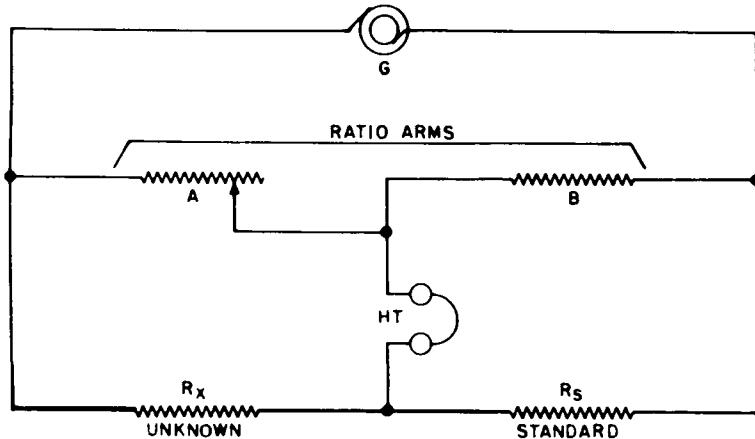

Figure 4-1. Basic Bridge Circuit, Generator and Indicator.
a. Figure 4-1 shows a bridge circuit in its most elementary form. An alternating current generator, G, passes current through two resistors, A and B, called the ratio arms and through resistors, R_x and R_s, called the unknown and standard, respectively. From consideration of the voltage drops, no current will
Comparison of this with Figure 4-1 shows that the "A" arm is actually a potentiometer R157 which carries the MULTIPLY RANGE SETTING BY calibration 1 to 11 on the panel (see Figure 3-1). This is padded at its lower end, R156, so that the panel setting of 1.0 includes exactly 1000 ohms and higher settings correspondingly higher values; also, that the "B" arm is one of four decimally related values selected by a switch. There are two values of the standard "Rs". Both switches shown are parts of RANGE switch S102.
a. Figure 4-5 shows a simplified circuit of the capacitance bridge. As the balance equation shows, it is actually the capacity-reactance rather than the capacitance which is balanced. Reversal of the positions of the standard and unknown with respect to the arms (compare with Figure 4-1) causes the A arm to retain its linear calibration. If the same relationship were
a. If operation of the basic bridge circuit, Figure 4-1, is interpreted as a balancing of the ratio arms against the respective voltage drops across R_x and R_s , then it is apparent that the same ratio arms can be balanced against the voltage drops across two windings of a transformer. This is shown schematically in Figure 4-8. If N_1 and N_2 are the turns of two closely coupled windings connected series-aiding as shown, then the bridge current through these will cause voltages, E_1 and E_2 proportional to the respective turns. Obviously, the bridge will balance when A and B have this same ratio.